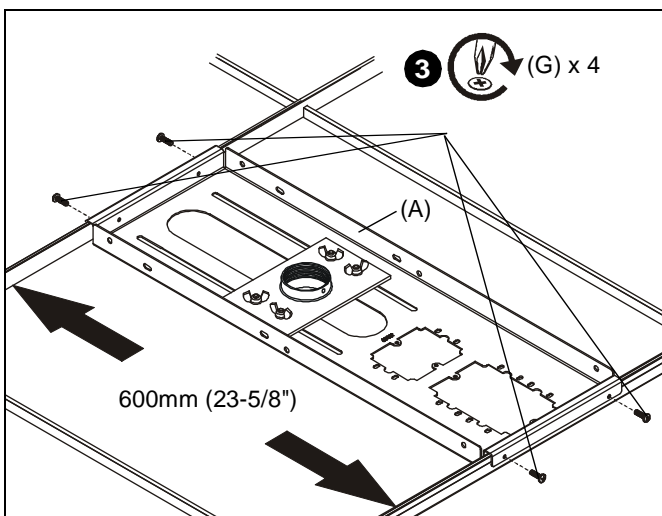
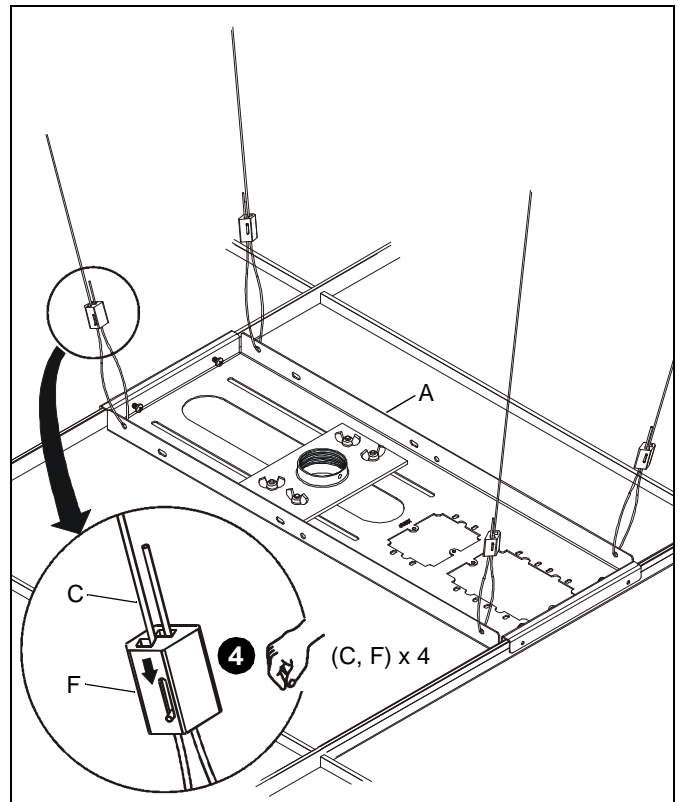

Figure 8
Figure 9
- **For 600mm (23-5/8") Framework:** Install screws through end bracket *outside* holes (See Figure 8).
**CAUTION:** Failure to properly tension cables (C) may result in damage to ceiling tile framework!
4. Thread each cable (C) completely through cable lock (F), corresponding hole in corner of CMS440 assembly (A), and completely through opposite side of cable lock (F) (See Figure 9). Adjust cable tension until CMS440 assembly (A) is supported *entirely* and *evenly* by all four support cables, but not so tight as to distort ceiling tile framework.
**NOTE:** Cable lock (F) will allow cable to enter from only one direction per side, indicated by arrows on lock. Depress spring loaded pins on cable lock (F) to release cable tension.